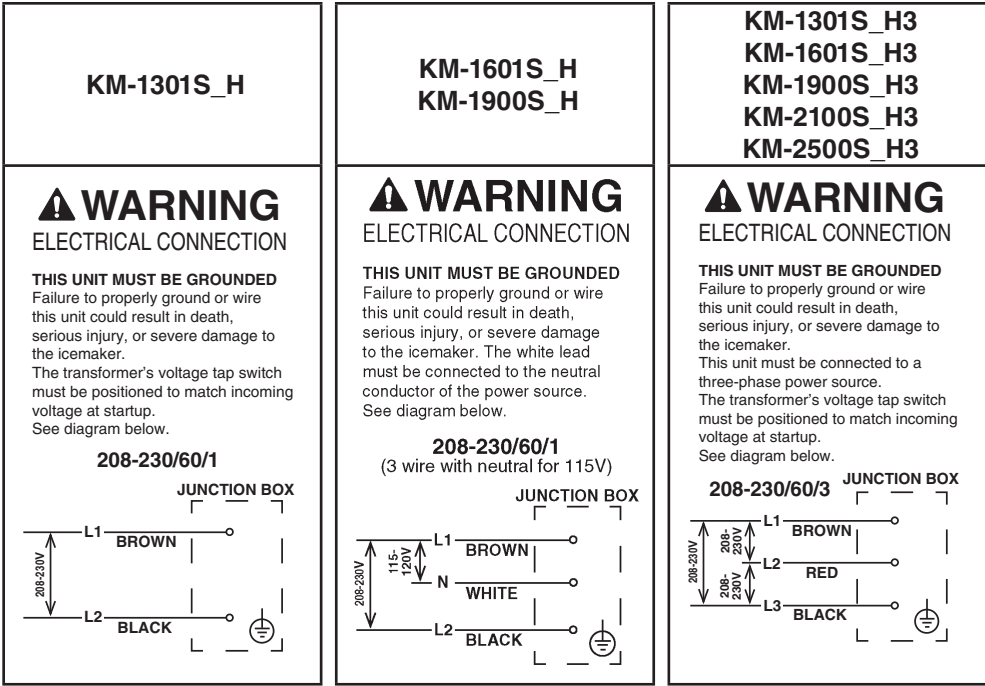

Fig. 12
- Electrical connection must be made in accordance with the instructions on the "WARNING" tag, provided with the pig tail leads in the junction box. See Fig. 12.